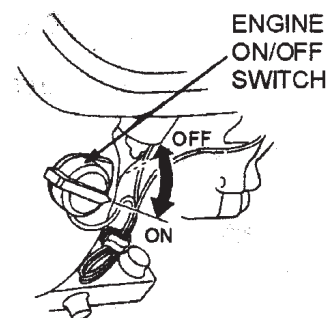

Figure 12. Engine ON/OFF Switch
5. Place the **engine ON/OFF switch** (Figure 12) in the "**ON**" position.